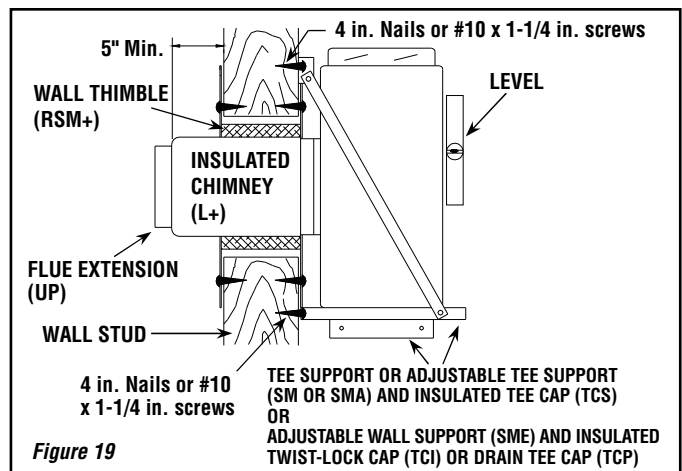

Figure 19
**Step 5.** This step will require 2 people: (See **figure 19**). Insert the chimney length of this tee-support assembly into the hole in the wall. Using a level, ensure the tee is vertical, then attach the support to the wall using (8) N°. 10 x 1 - 1/4" wood screws or 4" spiral nails.